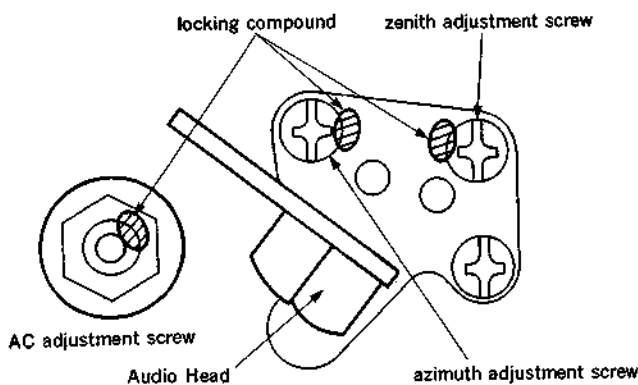

Fig. 7
- (11) Perform tape path alignment of section 6.
• Upon completion of adjustment, smear locking compound onto the AC adjustment screw, zenith adjustment screw and the azimuth adjustment screw. (Fig. 7)